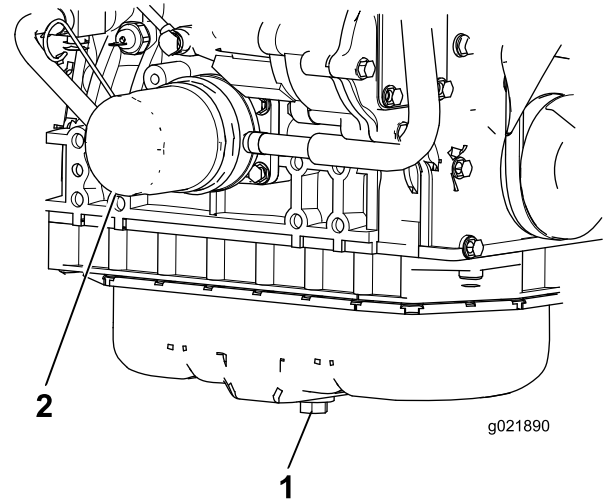

Figure 72
1. Remove the drain plug (Figure 72) and let the oil flow into a drain pan. When all the oil is drained, install the drain plug.
2. Remove the oil filter (Figure 72). Apply a light coat of clean oil to the new filter seal before screwing it on. **Do not overtighten.**